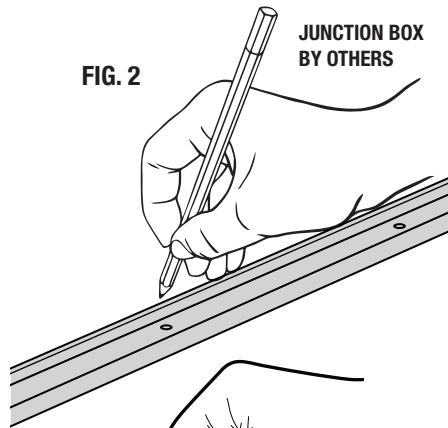

FIG. 3
3. INSTALLING 120 CHANNEL: When using screws, mark where mounting holes are to be drilled every twelve inches (FIG. 2) and install channel, screwing counter-sunk screws (by others) into mounting surface (FIG. 3). When using 3M tape apply it along entire length of channel.